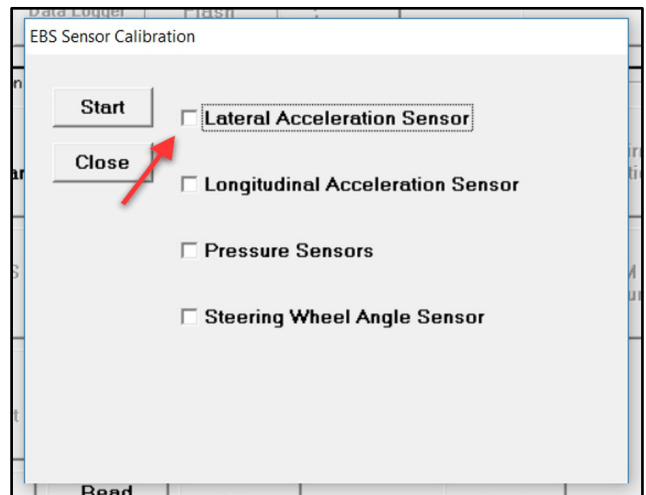

Figure 14
25. Click "Lateral Acceleration Sensor" (refer to Figure 14).